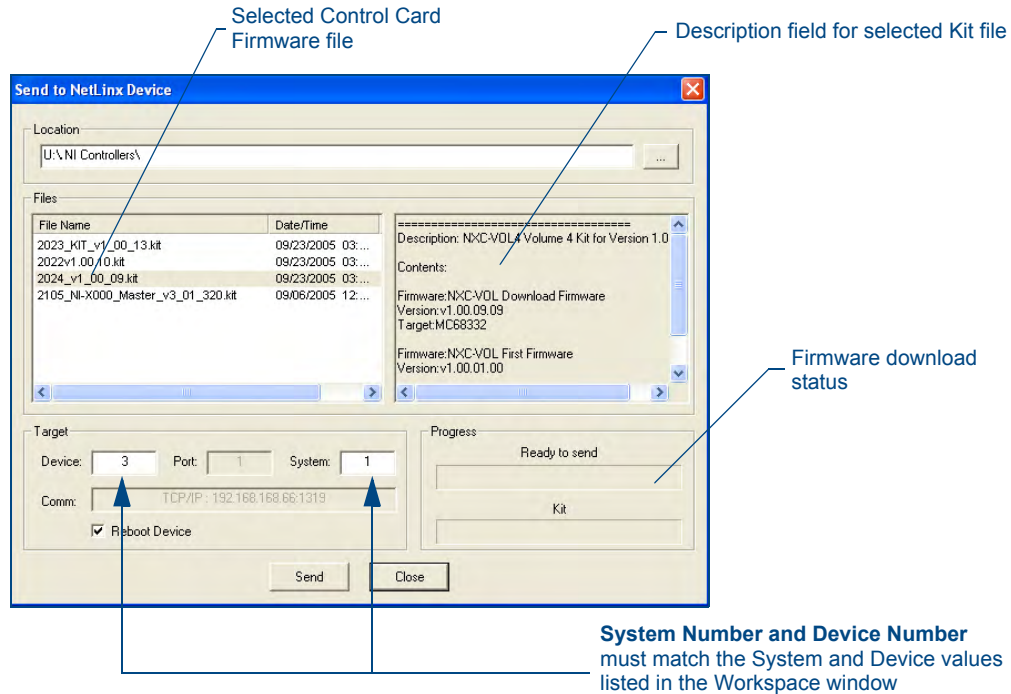

FIG. 10 Select Control Card firmware file for download page (via IP)
8. Select **Tools** > **Firmware Transfers** > **Send to NetLinx Device** from the Main menu to open the Send to NetLinx Device dialog (FIG. 10). Verify the target's **Device and System** numbers matches the value listed within the System folder in the Workspace window.
9. Select the Control Card's Kit file from the **Files** section (FIG. 10) (in our above example we chose to update the NXC-VOLA card).
12. Click **Send** to begin the transfer. The file transfer progress is indicated on the bottom-right of the dialog (FIG. 10).